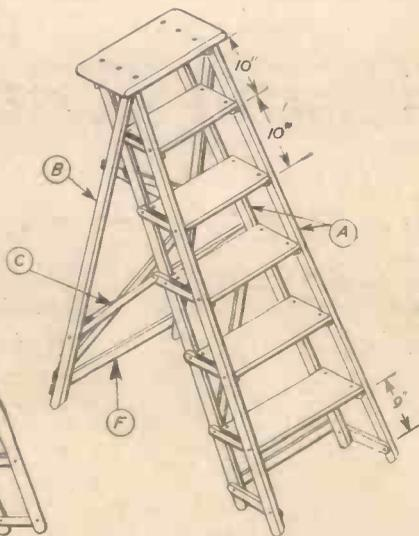

Fig. 2.—A perspective view giving some of the dimensions.
Fig. 2 are planed and finished 1 1/2in. wide by 1/2in. thick by 61in. long. These are laid side by side and the positions of the tread bearer pin holes are marked.
The tread bearers can next be prepared. Ten of these measure 6in. x 1in. x 1/2in. The top pair measure 6in. x 1 1/2in. x 1/2in. and the two centre tread bearers to which the back struts (C) Fig. 2 are pinned measure 7 1/2in. x 1 1/2in. x 1/2in. The pin holes are marked out at 4 1/2in. centres and the two additional holes in the centre tread bearers are spaced at 1in. centres.